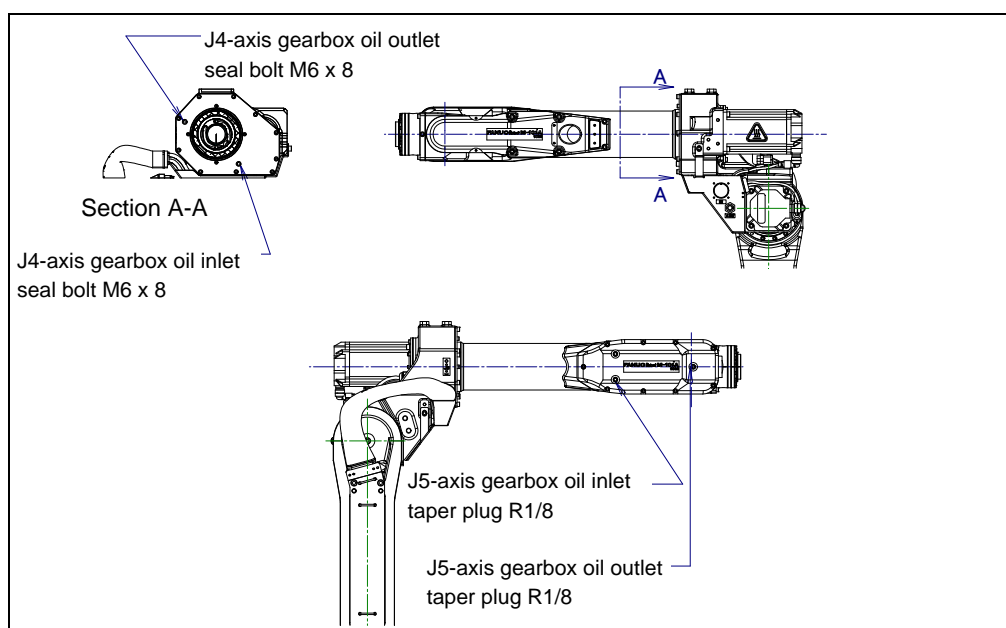

Fig. 8.3.3.3 Greasing point of J4/J5-axis gearbox
- 3 Remove the seal bolt. (Fig. 8.3.3.3)